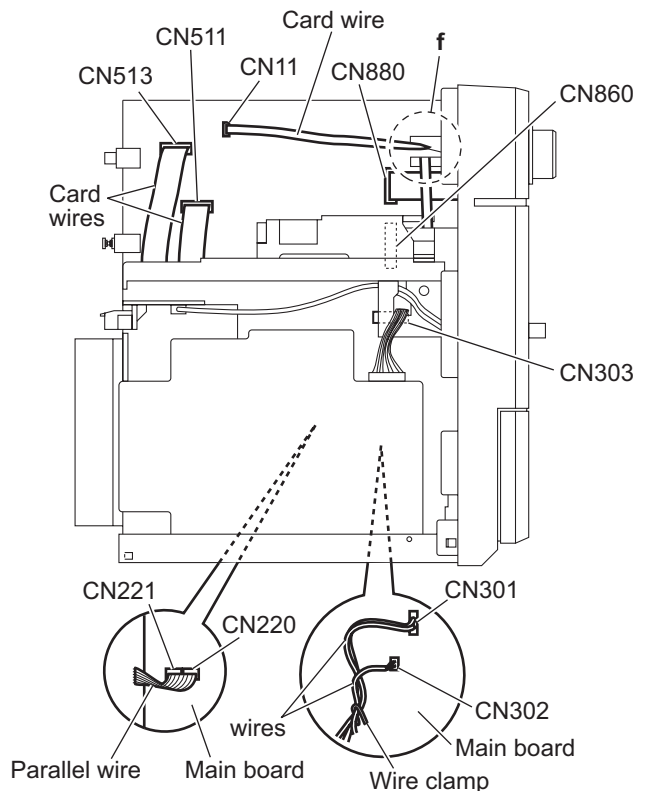

Fig.15
- (4) Remove the wire clamp fixing the wires and disconnect the wires from the connector (CN301, CN302) on the forward side of the main board. (See Fig.15.)
After connecting the wires to the connectors, fix the wires with the wire clamp as before. (See Fig.15.)
- (5) Disconnect the parallel wire from the connectors (CN220, CN221) on the main board. (See Fig.15.)